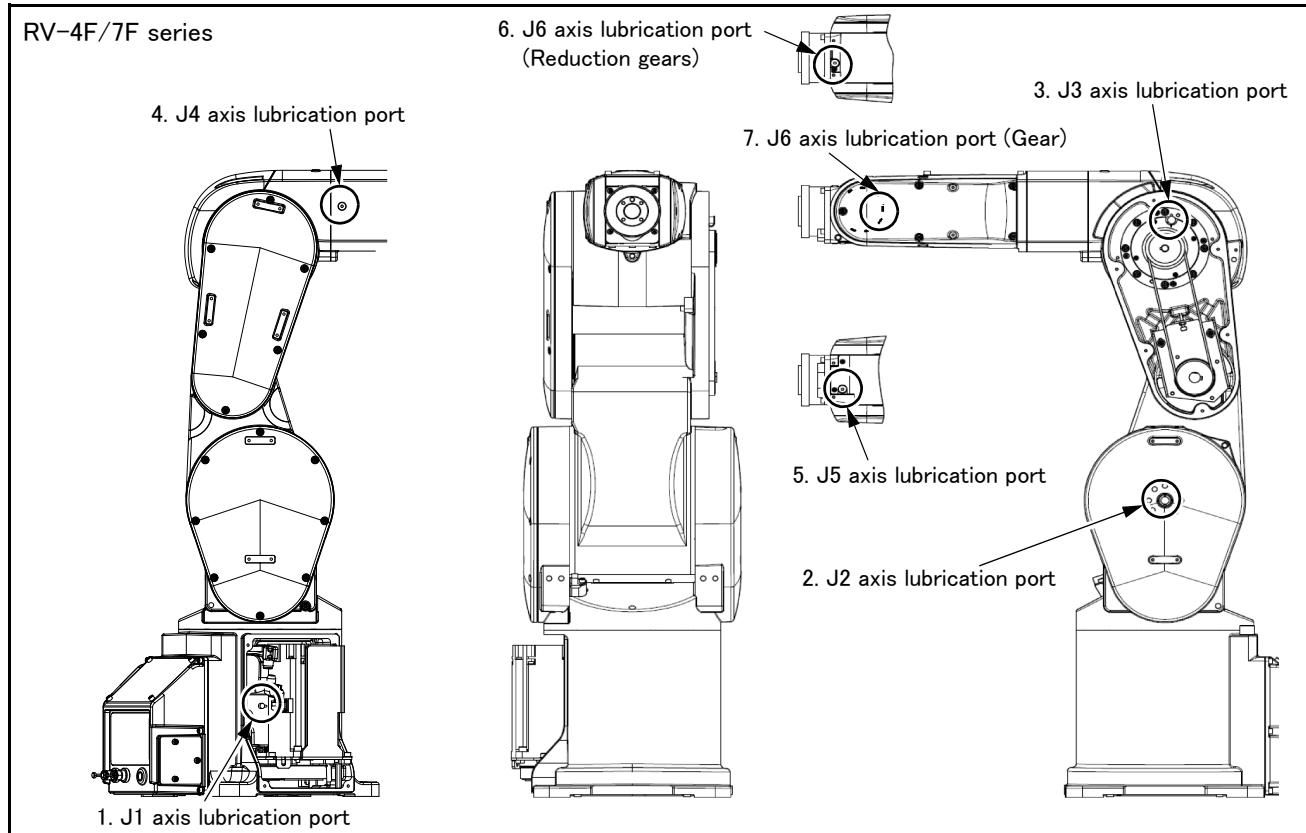
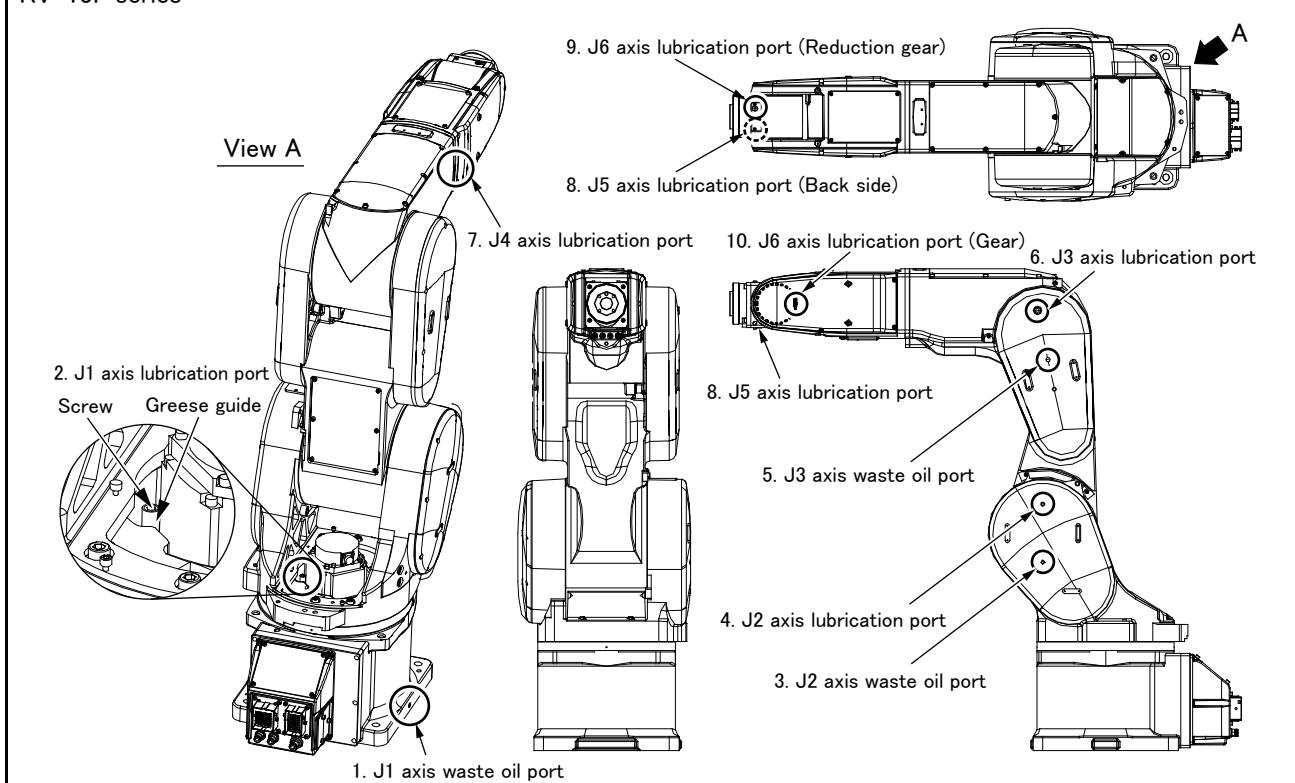

Fig.5-16 : Lubrication positions (RV-4F/7F series)
Fig.5-17 : Lubrication positions (RV-13F series)
The grease nipple position is shown in Fig. 5-16 (RV-4F/7F series) or Fig. 5-17 (RV-13F series). The lubrication specifications for each place are shown in Table 5-4. Refer to the Page 82, "5.3.2 Installing/removing the cover" for the method of removing and installing the cover.
- The numbers in the Table 5-4 correspond to the supply positions in Fig. 5-16 (RV-4F/7F series) or Fig. 5-17 (RV-13F series).
(2) Lubrication method
- 1) Set the robot to the posture shown in Fig. 5-16 (RV-4F/7F series) or Fig. 5-17 (RV-13F series).